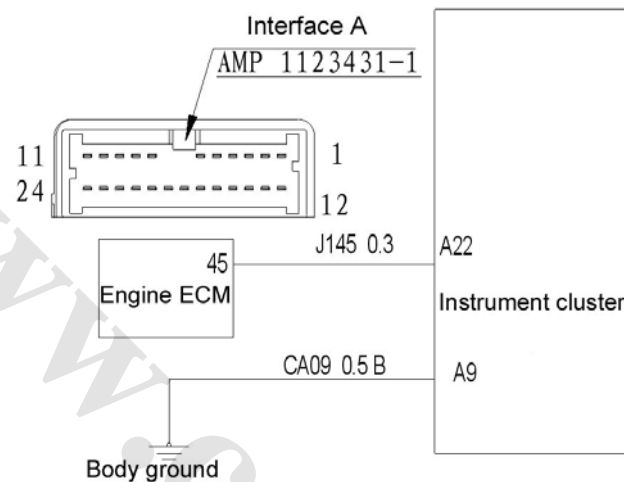

Fig. 4-22
2) Check the circuit as shown in Fig. 4-22.